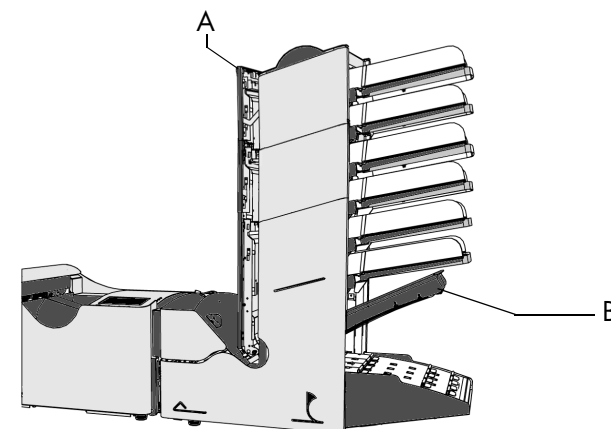

Fig. 55
- pull the hand grip A upward to open the vertical transport cover (fig. 55).
- lift and hold the collator arm B (fig. 55).